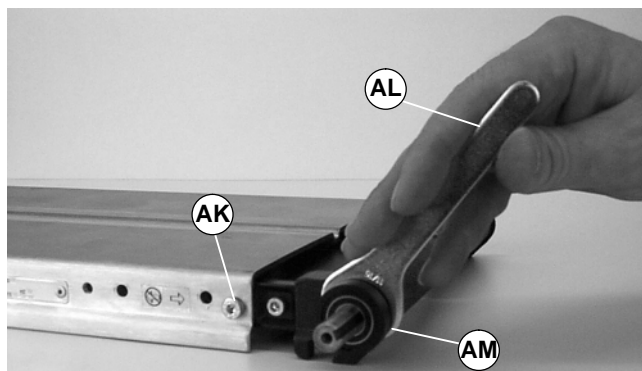

Figure 28
2. For 254 mm, 305 mm or 457 mm wide conveyors, use the narrow-headed 11/16" wrench (part # 808-1043) (AL of Figure 28) to remove the outboard bearing (AM).
3. Remove screw (AK).